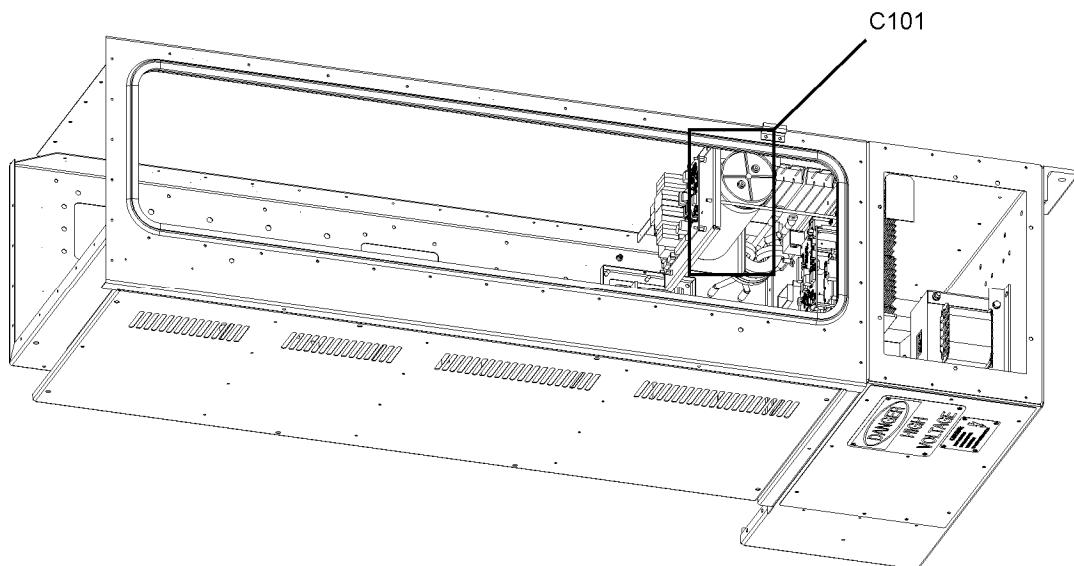

Figure 5-8: Location of C101
3. Locate C101. See Figure 5-8 for the location of the C101. The C101 is mounted in a recess behind a panel displaying a caution message.